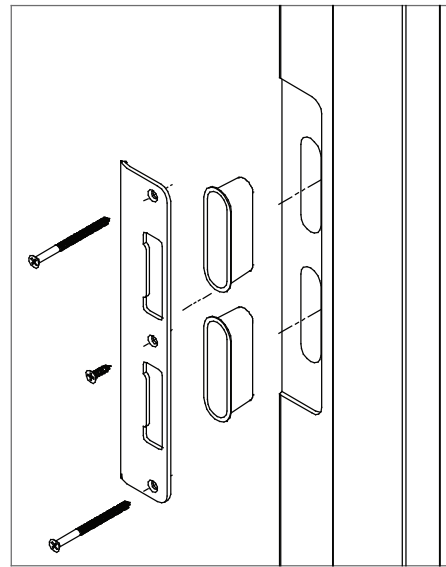

Figure 1b - Spread Mullion
Fasten with (2) #8 x 2-1/2" screws and (1) # 8 x 5/8" screws for a **spread mullion**. See Figure 1b.